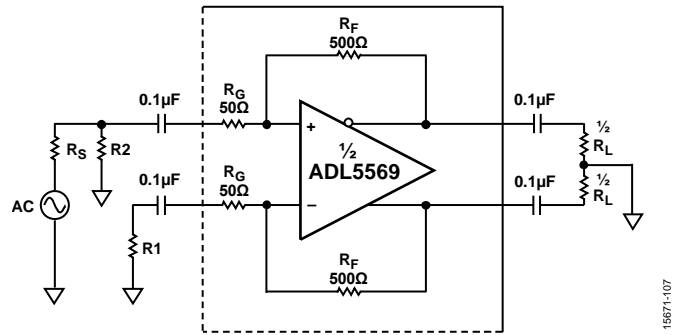

Figure 42. Single-Ended Input to Differential Output Configuration
The ADL5569 can also be configured in a single-ended input to differential output configuration, as shown in Figure 42. In this configuration, the gain of the device is reduced due to the application of the signal to only one side of the amplifier. The input and output 0.1 μF capacitors isolate the VVCC/VVCC2 bias from the source and the balanced load.
The single-ended circuit configuration can be accomplished in three steps (see Figure 42), assuming a 50 Ω RS source. First, calculate the input resistance (RIN) of the amplifier using the following formula:
The next step is to calculate the termination of Resistor R2 (see Figure 42). Because source impedance (RS) must be equal to the parallel equivalent resistance of R2 and RIN,
The last step is to calculate the gain path rebalancing resistor, R1 (see Figure 42), by using the following formula: